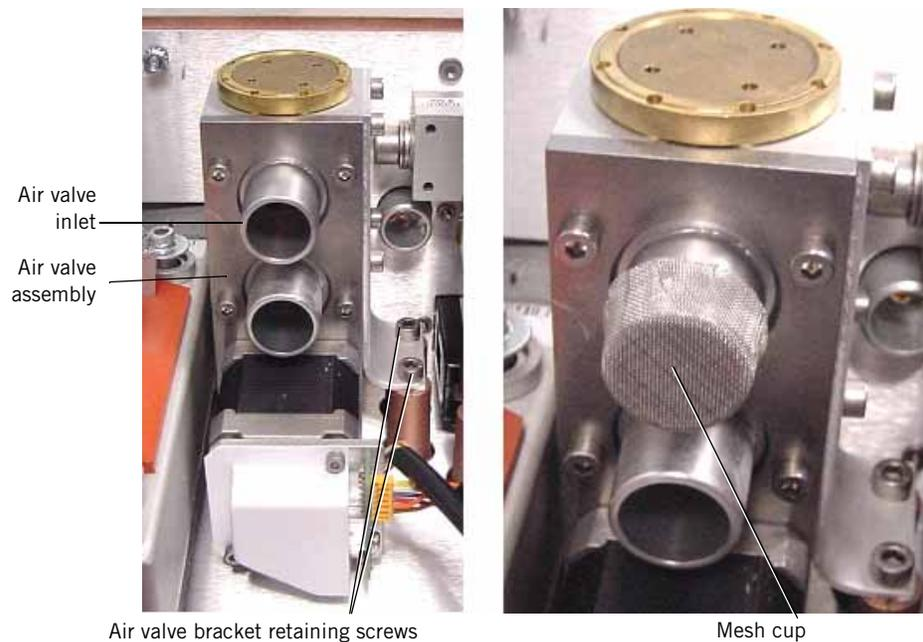

Figure 10-50: Air Valve and Mesh Cup
3. Disconnect the blower outlet transfer tube from the upper port of the air valve (Figure 10-50).
3. Cutting the tie wrap, disconnect the blower outlet transfer tube from the upper port of the air valve inlet (Figure 10-50).
2. Disconnect the blower outlet tube from the upper port of the air valve (Figure 10-50).